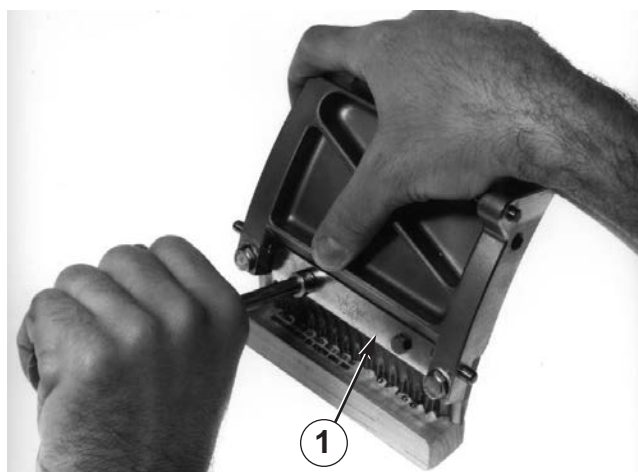

Figure 28 — Installing knife and knife clamp and tightening screws. (1) Knife Clamp
**CRINKLE OR V-CUT KNIVES** — place knife and clamp together on knife holder. Install and lightly tighten screws. Use wood block provided to hold knife tightly against its seat while tightening screws until they stop (Figure 28) — 45–50 inch pounds (5.08–5.65 newton-meters).